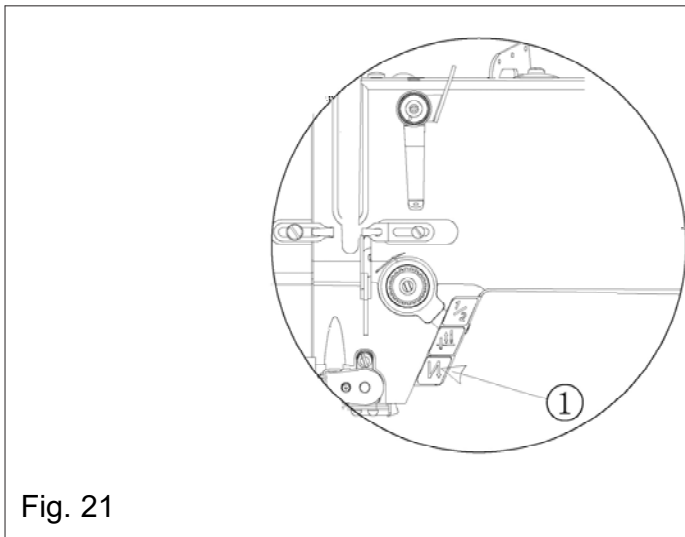

Fig. 21
15. Sewing and backtacking (Fig21)